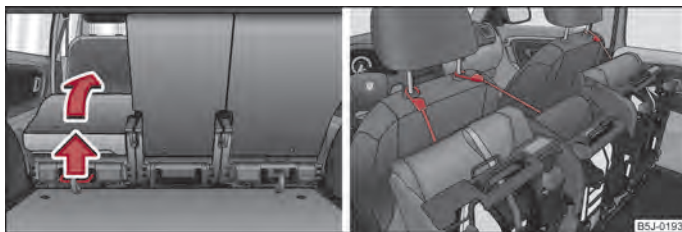

Fig. 39 Fold seat fully forwards/Secure folded forward seats
- Pull the lever ⇒ fig. 39 up and then fold the seat fully forwards.
- Secure the folded forward seat with the aid of the fixing belt to a guide rod of the head restraint for the front seat ⇒ fig. 39 on the right.